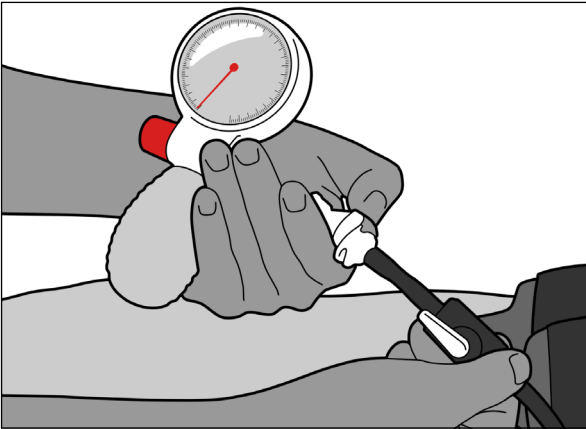

Fig. 22
1. Disconnect Quick Disconnect Fitting. Open shutoff valve and release the air from the bladder (Fig. 22 & 23).